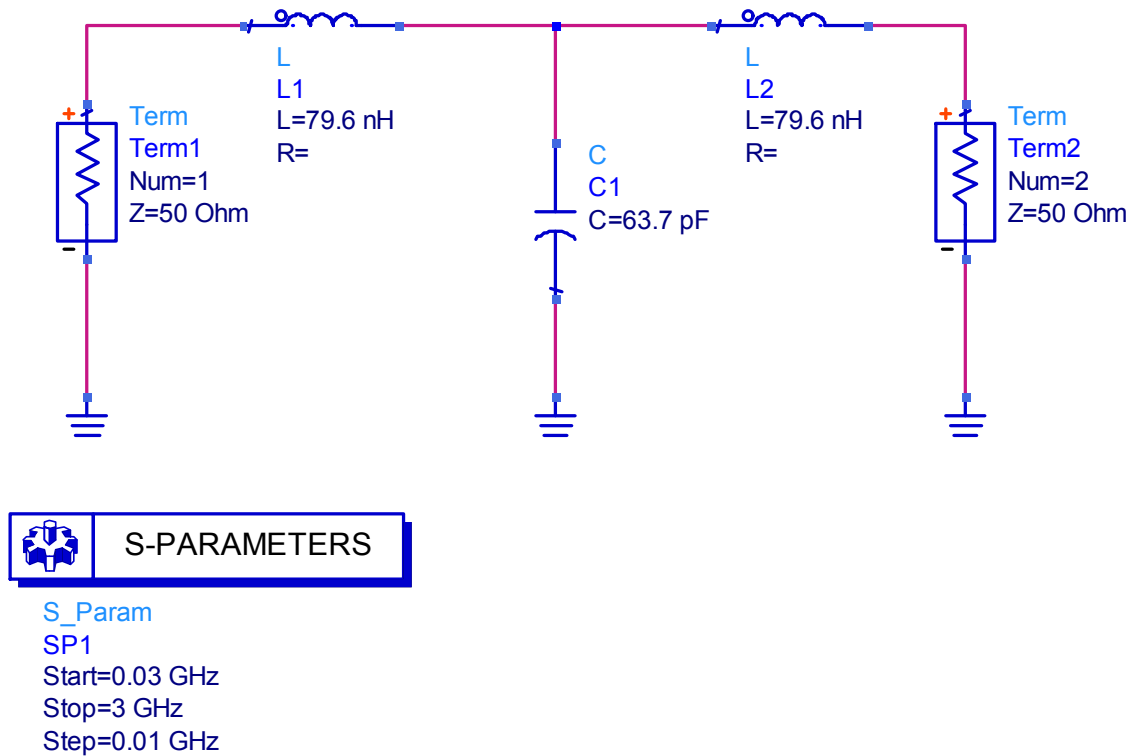

Figure 1: Ideal low pass filter with terminations.
10. There is a wire symbol on the same bar as the ground symbol. Use wire segments to connect all of the circuit elements appropriately. Your circuit should appear as the circuit shown in Figure 1.